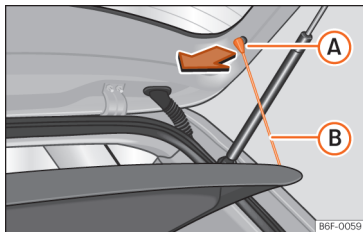

Fig. 180 In the boot: removing and installing the shelf.
- Detach the cord loops >>> Fig. 180 (B) from their hooks (A).
- Attach the securing straps >>> Fig. 180 (B) onto the rear lid.